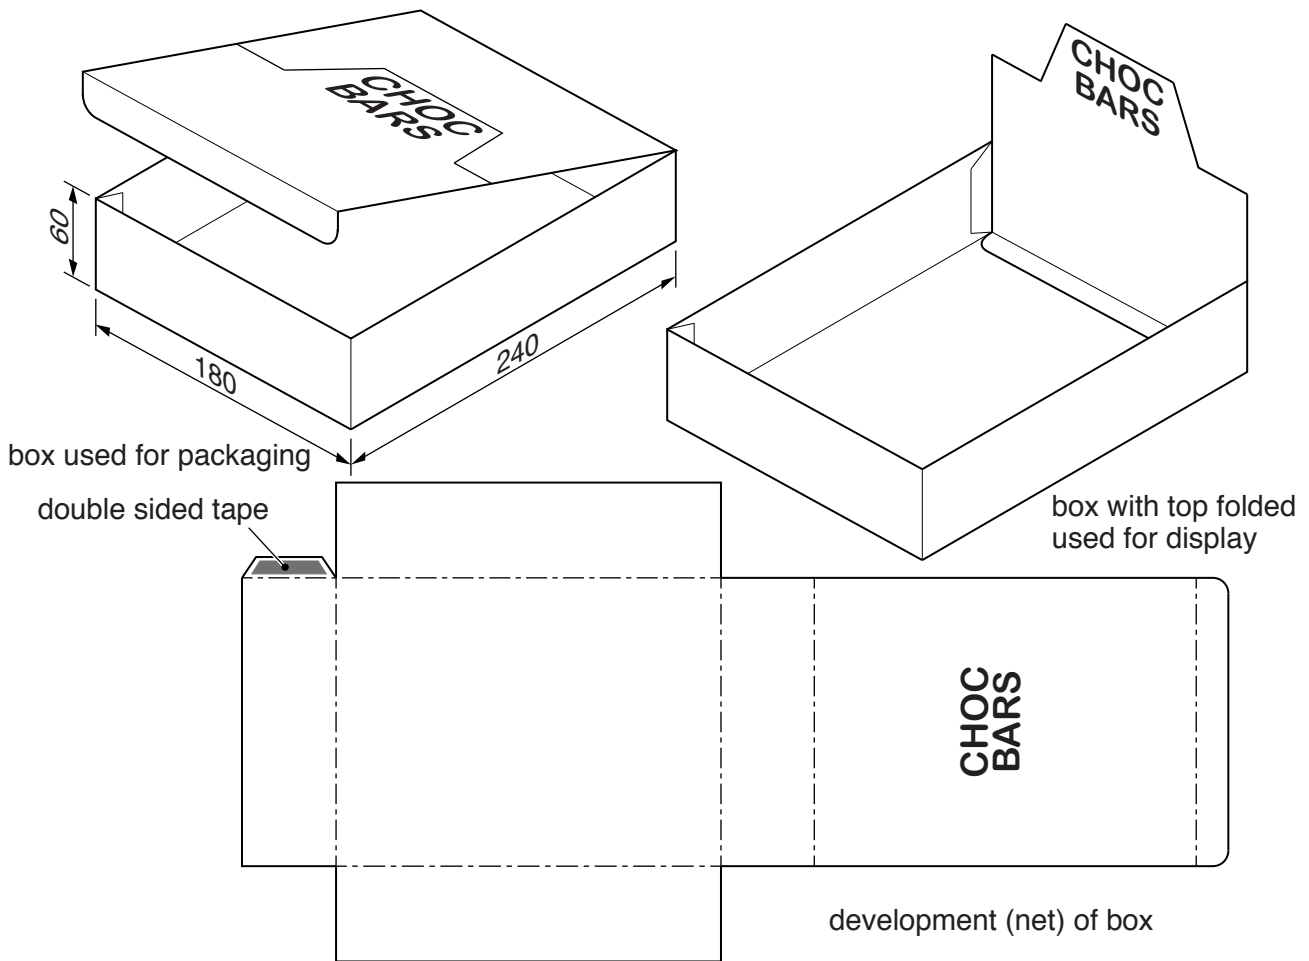

Fig. 6
- 5 Fig. 6 gives details about a box which is to be used to both package and display chocolate bars.